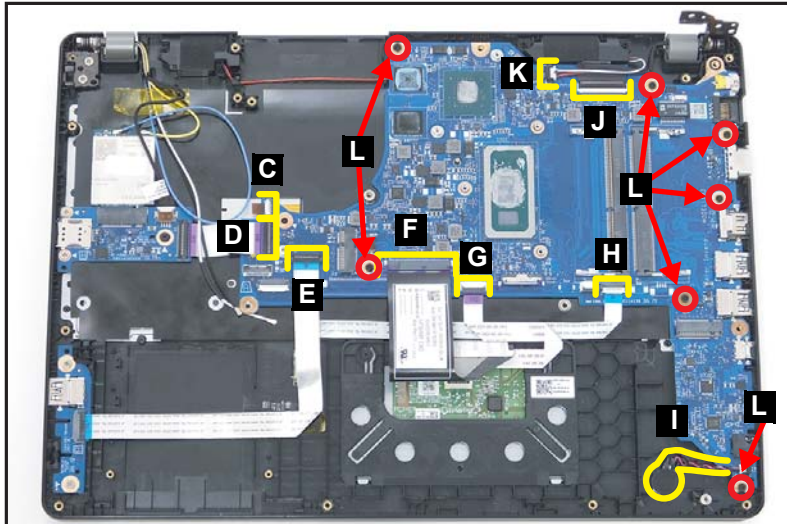

Figure 1-53. Mainboard Removal
5. Disconnect the keyboard backlight FFC from the mainboard connector (C) (Figure 1-53).
6. Disconnect the LTE board FFC from the mainboard connector (D) (Figure 1-53).
7. Disconnect the USB board FFC from the mainboard connector (E) (Figure 1-53).
8. Disconnect the keyboard FPC from the mainboard connector (F) (Figure 1-53).
9. Disconnect the touchpad FFC from the mainboard connector (G) (Figure 1-53).
10. Disconnect the NFC FFC from the mainboard connector (H) (Figure 1-53).
11. Pry to detach the adhesive tape underneath the RTC battery. Then remove the RTC battery (I) (Figure 1-53).
12. Disconnect the eDP cable from the mainboard connector (J) (Figure 1-53).
13. Disconnect the speakers cable from the mainboard connector (K) (Figure 1-53).
14. Remove seven (7) screws (L) securing the mainboard in place (Figure 1-53).